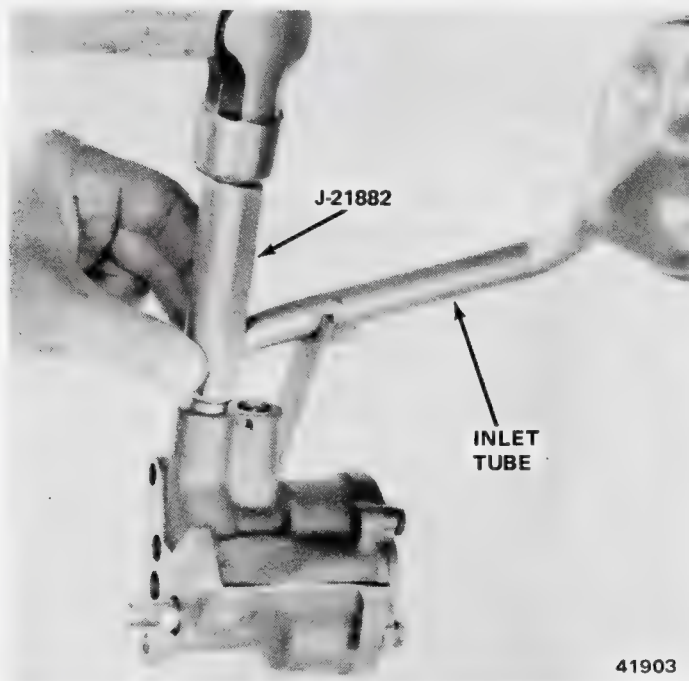

Fig. 1B-98 Oil Pump Inlet Tube Installation
(1) Install oil pressure relief valve, spring, retainer and cotter pin.
(2) If position of the inlet tube in the pump body has been disturbed, install replacement tube and screen assembly. Apply light film of Permatex No. 2, or equivalent, around end of tube. Use tool J-21882 to drive tube into body, making sure support bracket is properly aligned (fig. 1B-98).